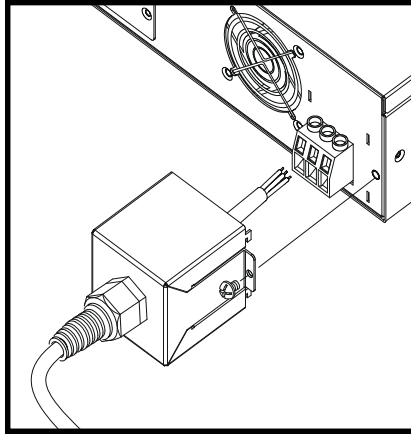

Figure 7
- (1) The input connector board is located at the right of rear panel.
- (2) The power line must be 85°C rated at least.
- (3) The power cable width must be within 10AWG~12AWG. (**Note:** 62050P must be within 8AWG ~10AWG when connecting 3-phase 4-wire Δ .)
- (4) To assemble 62006P, 62012P & 62024P ➡ see Figure 7 and execute the following steps: